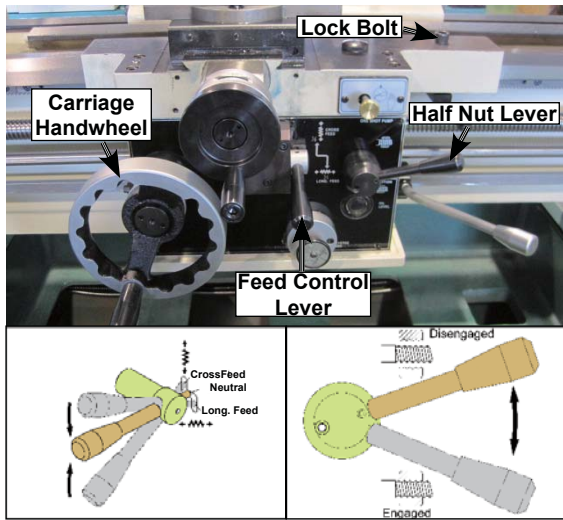

Figure 10. Carriage controls set for moving the carriage.
4. To further balance the load, loosen the carriage lock bolt, disengage the half nut lever, put the feed control lever in neutral, then use the carriage handwheel to move the carriage next to the tailstock. (Figure 10)